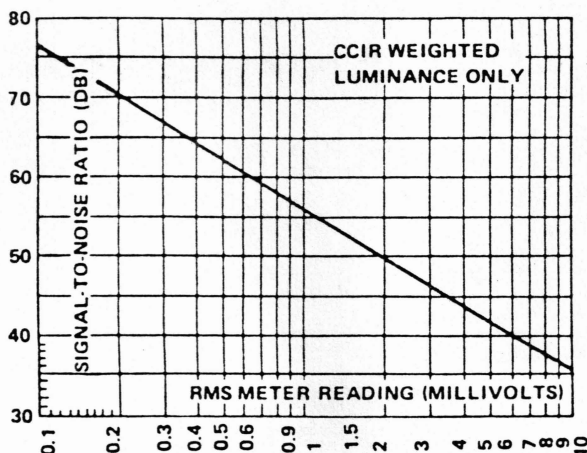

Figure 5-4. Signal-to-Noise (S/N) Conversion Chart
Step 4. Read the residual noise voltage on the rms voltmeter and convert this reading to signal-to-noise (S/N) in decibels by reference in Figure 5-4. Filter loss has been included in the chart preparation and, therefore, if 1V peak-to-peak unity gain exists in the system, the solid-line conversion is the system signal-to-noise (S/N) ratio. Record this value in decibels in the maintenance log.